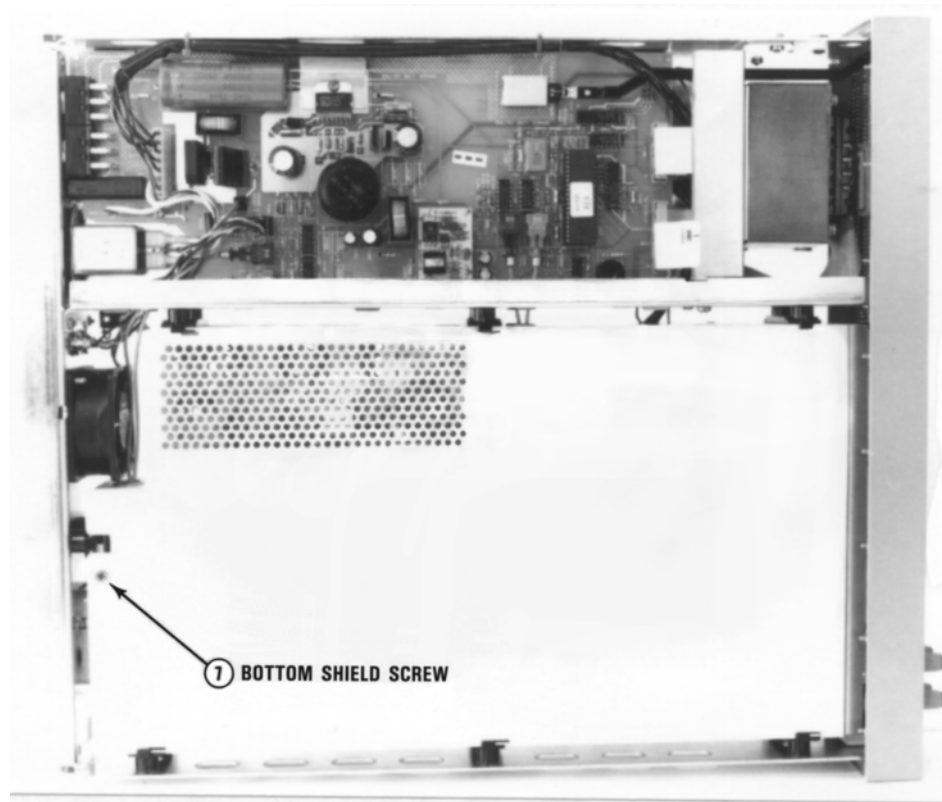

Figure 3-5 Remove/Install bottom shield screw
- 15 Refer to Figure 3-5. Use the #TX10 Torx driver to remove the bottom shield screw. Then remove the shield. Pull the shield toward the rear of the instrument until the shield retainers line up with the slots in the shield. Lift the shield off.
- 6** Refer to **Figure 3-5**. Turn the instrument over so its top sits on your workbench.